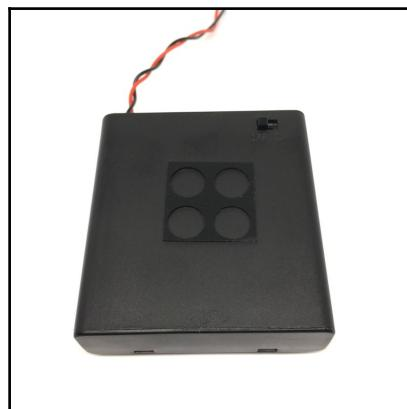

Figure 2.15: Applying the scrap piece of the bumper material. Image courtesy of Adafruit Industries (<https://www.adafruit.com>); Image credits—Tyler Cooper
2. Flip the battery box over and place the scrap piece of the bumper material in the middle (*Figure 2.15*):